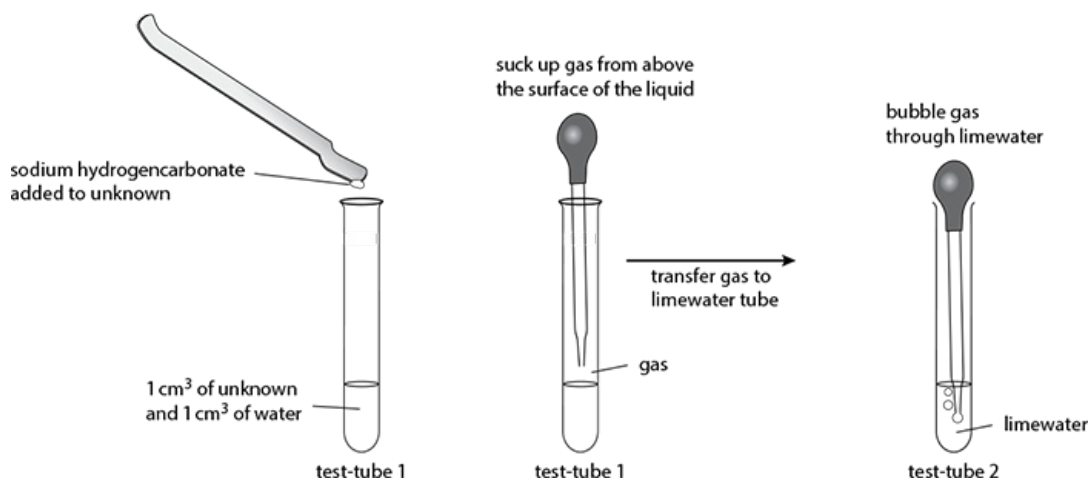

Figure 10.2: Test for the carboxylic acid group
- 1 For each unknown compound that tested positive for a hydroxyl group in Part 1, complete the procedures shown in Figure 10.2. You will need to set up two test-tubes per compound tested, as shown.